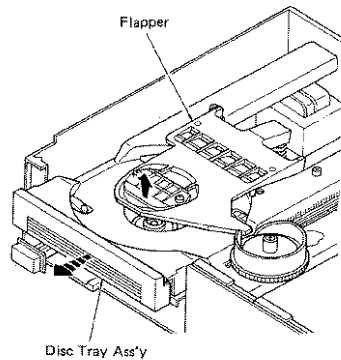
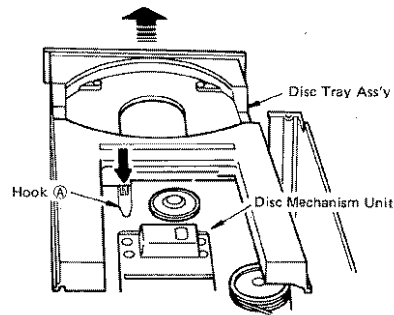

Fig. 2
Fig. 3
- a. Lift Flapper as shown in Fig. 2, and pull Disc Tray Ass'y forward. Then pull off Disc Tray Ass'y by pressing the hook (A) in Fig. 3. Now, the jitter can be adjusted.